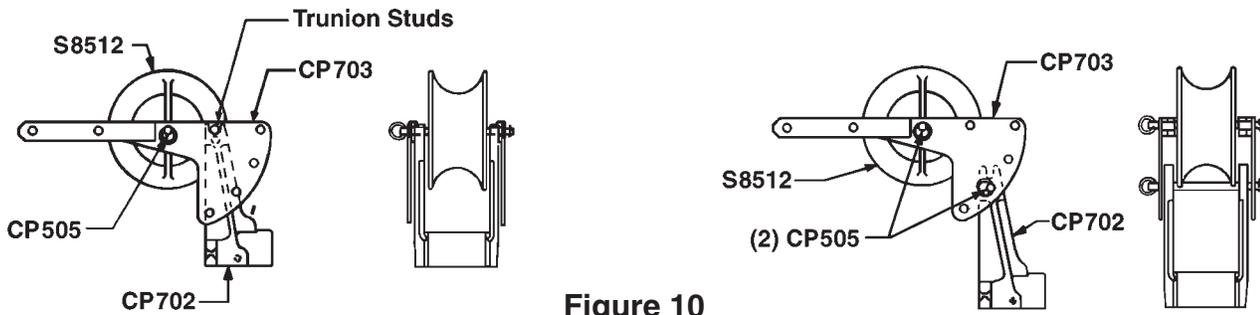

Figure 10
- 2). The slots in the coupling frame are designed to engage the trunion studs on CP703 frame adaptor. To use other angles or gain height, a CP505 8-inch lock pin may be installed through holes in the frame adaptor. The coupling frame slots can rest under the pin instead of the trunion studs. See figure 10.
- 1) Coupling clamp frame CP702 is used to provide a connection between the conduit and the puller frame. See figure 10.